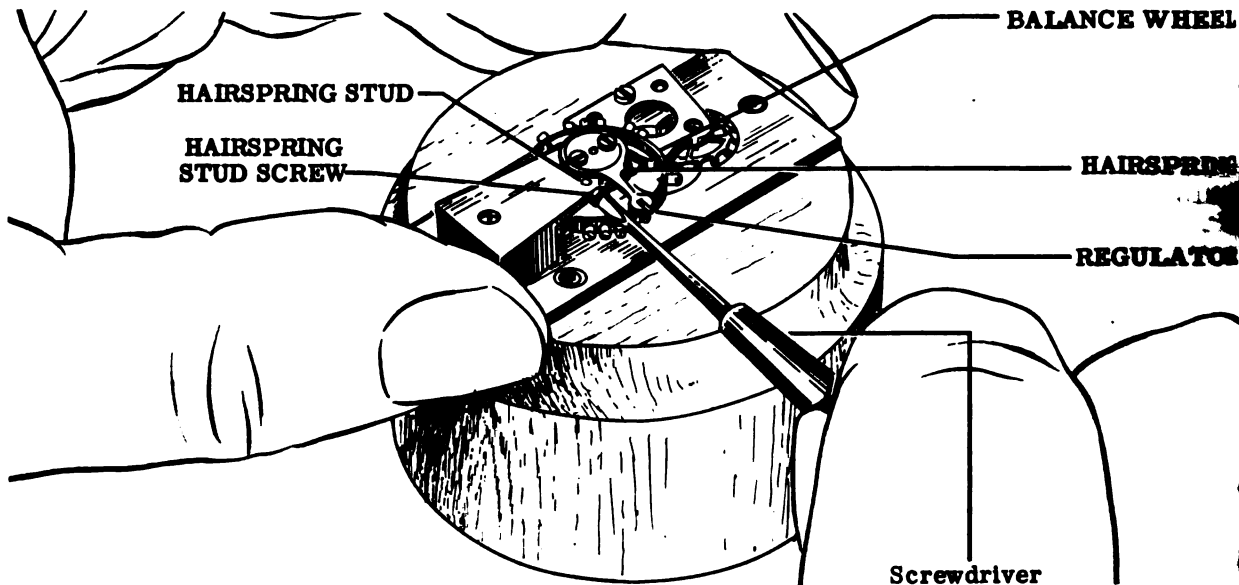

Figure 62—"New" Seth Thomas Escapement (R-20666)
1. Place the escapement upon the escapement work block (Tool No. 7B for Seth Thomas Escapements and Tool No. 7C for Elgin Escapements). The potance should be placed down in the work block hole so that the escapement lies level as shown in Figs. 62, 63 and 64.
Loosen the hairspring stud screw several turns, as shown in Figs. 62, 63 and 64, to release the hairspring stud from its hole on the balance cock. With a very small screwdriver, push the hairspring stud down out of its hole in the balance cock. Retighten the stud screw into the balance cock.